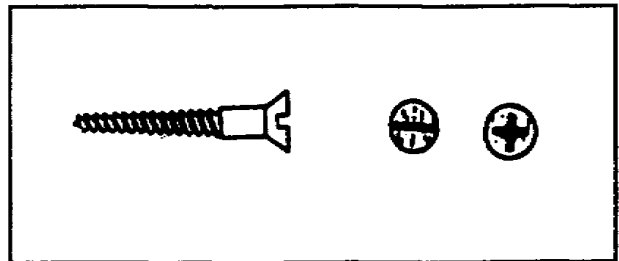

Figure 1-36. Flathead screw
(3) Flathead Screws. Flathead screws (Figure 1-36) are used where the head will not show. The head should be countersunk until it is level with or slightly below the finished surface. If flathead screws are used on an exposed area, they should be countersunk in a hole that can be plugged.